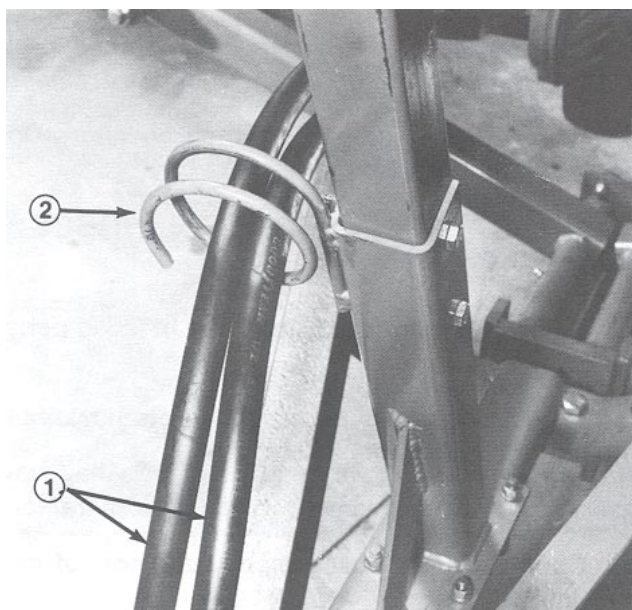

Figure 6
4. Route supply and return hoses through hose hanger (Fig. 6).